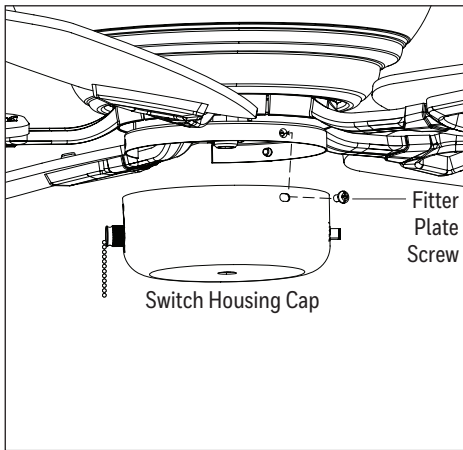

Figure 3.1
1. Remove the three fitter plate screws from the fitter plate. Attach the switch housing cap to the fitter plate using the fitter plate screws (Figure 3.1).